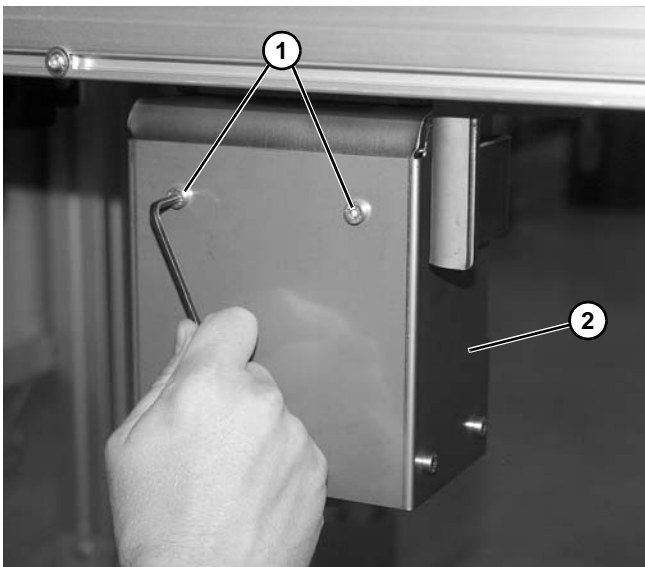

Figure 54
1. Remove two screws (**Figure 54, item 1**) that secure the front of cylinder guard.
2. Lower cylinder guard (**Figure 54, item 2**) from around cylinder assembly.